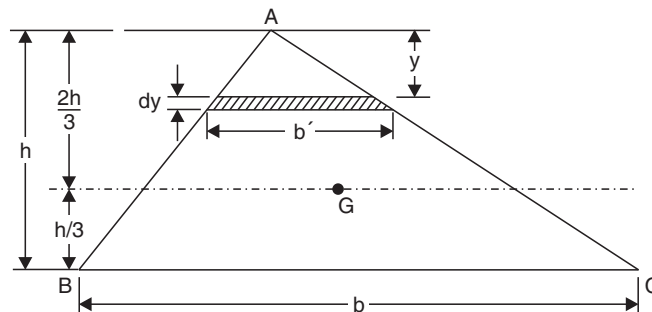

Fig. 5.11
**3. Moment of inertia of a triangular lamina.** Refer to Fig. 5.11. Let  $ABC$  be a triangular lamina of base  $b$  and altitude  $h$ .